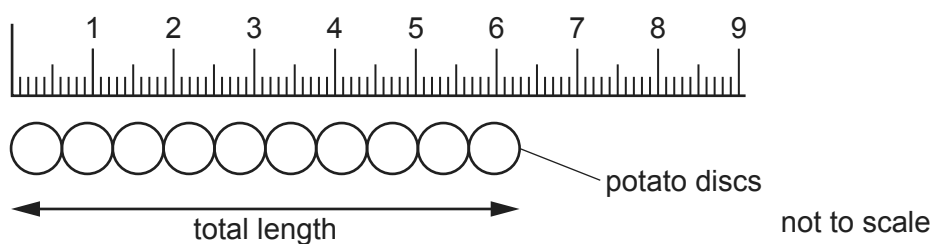

Fig. 1.2
Step 4 Place 10 potato discs in a line next to a ruler, as shown in Fig. 1.2.
- Step 9 Remove the 10 potato discs from beaker **S1** and put them onto the white tile, line them up along the ruler, as shown in Fig. 1.2.